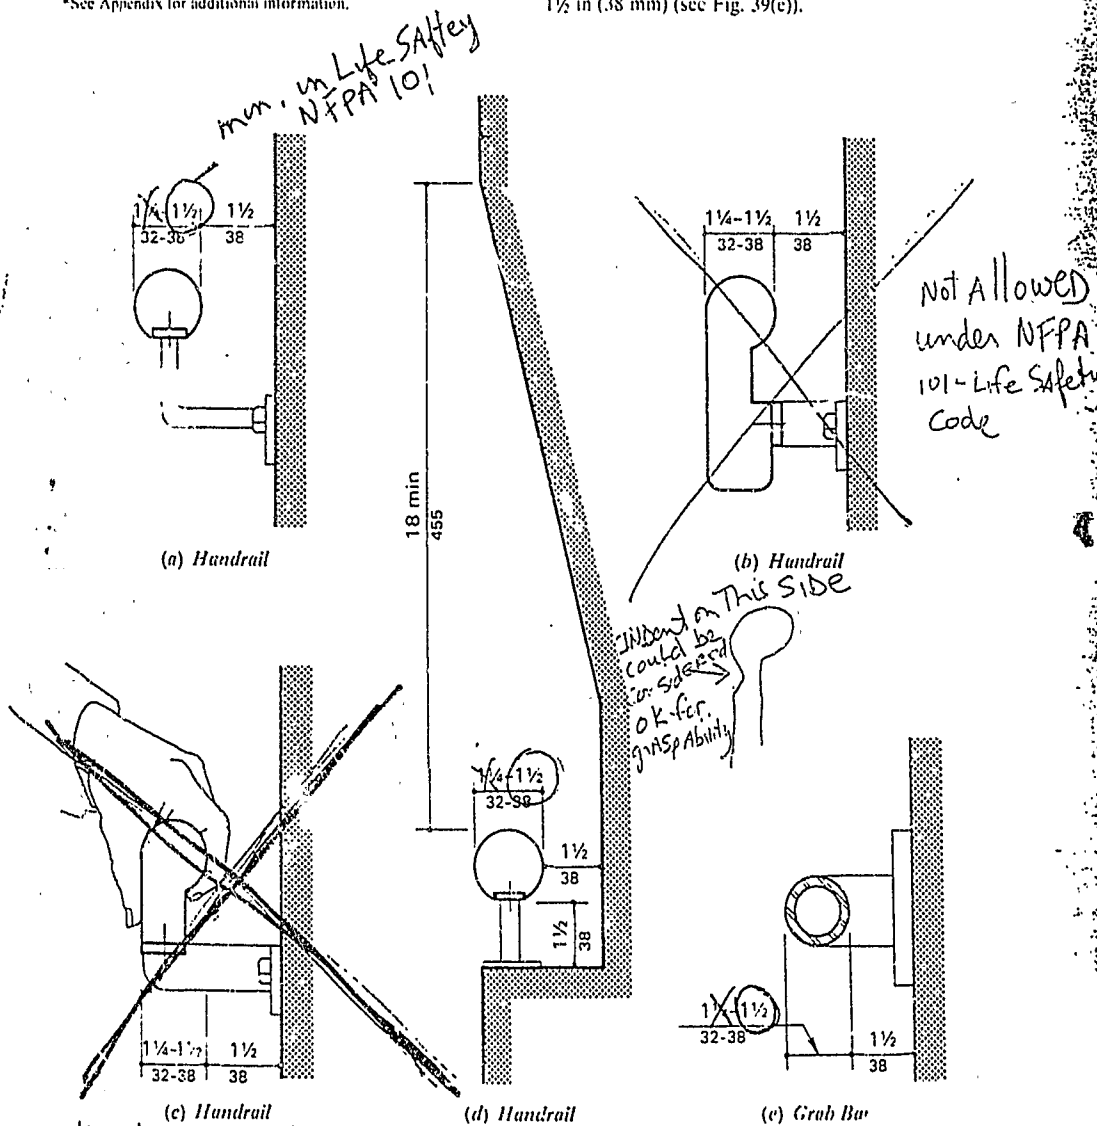

Fig. 39
- (1) Handrails shall be provided along both sides of ramp segments. The inside handrail on switch-back or dogleg ramps shall always be continuous.
(2) If handrails are not continuous, they shall extend at least 12 in (305 mm) beyond the top and bottom of the ramp segment and shall be parallel with the floor or ground surface.
(3) The clear space between the handrail and the wall shall be 1½ in (38 mm). Handrails may be located in a recess if the recess is a maximum of 3 in (75 mm) deep and extends at least 18 in (455 mm) above the top of the rail (see Fig. 39(d)).
(4) Gripping surfaces shall be continuous, without interruption by newel posts, other construction elements, or obstructions.
(5) The diameter or width of the gripping surfaces of a handrail shall be 1½ in to 1½ in (32 mm to 38 mm), or the shape shall provide an equivalent
gripping surface (see Fig. 39(a), (b), and (c)). Standard pipe sizes designated by the industry as 1½ in to 1½ in (32 mm to 38 mm) are acceptable industry tolerances as noted under 3.2.
4.24.2 Size and Spacing of Grab Bars. The diameter or width of the gripping surfaces of a grab bar shall be 1/4 in to 1/2 in (32 mm to 38 mm), or the shape shall provide an equivalent gripping surface. If grab bars are mounted adjacent to a wall, the space between the wall and the grab bar shall be 1/2 in (38 mm) (see Fig. 39(e)).